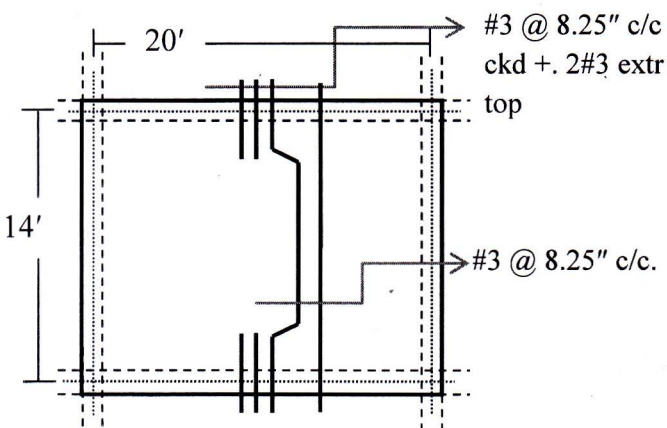

Figure 1: Details of slab
- Draw the qualitative influence lines of shear forces $V_{C(\text{Left})}$, $V_{C(\text{Right})}$ and bending moments M_A , M_B of the beam shown in **Figure 1(a)**. [4]
- State the parameters that influence the joint moment distribution factor. Formulate the equation to calculate moment distribution factors at joint B of the structure shown in **Figure 1(b)**. [2+2]
- a. A beam-supported interior slab panel is carrying loads of 30 psf from floor finish and 50 psf from random wall. Calculated reinforcement (in USD) in short span was found to be #3 @8.25" c/c (bottom), alt ckd + 2#3 extra top as shown in **Figure 1**. Thickness of the slab was found to be 4.5". Calculate the live load that can be carried by the slab panel. Use Moment Co-efficient method. [10]